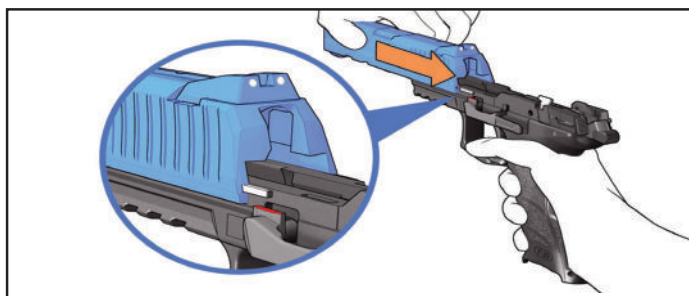

Figure 28 — Mounting the slide on the frame
6. Mount the slide onto the frame, ensuring that the recoil spring is centered underneath the barrel, and that the rails on the frame are inserted into the grooves in the bottom of the slide (see Figure 28).